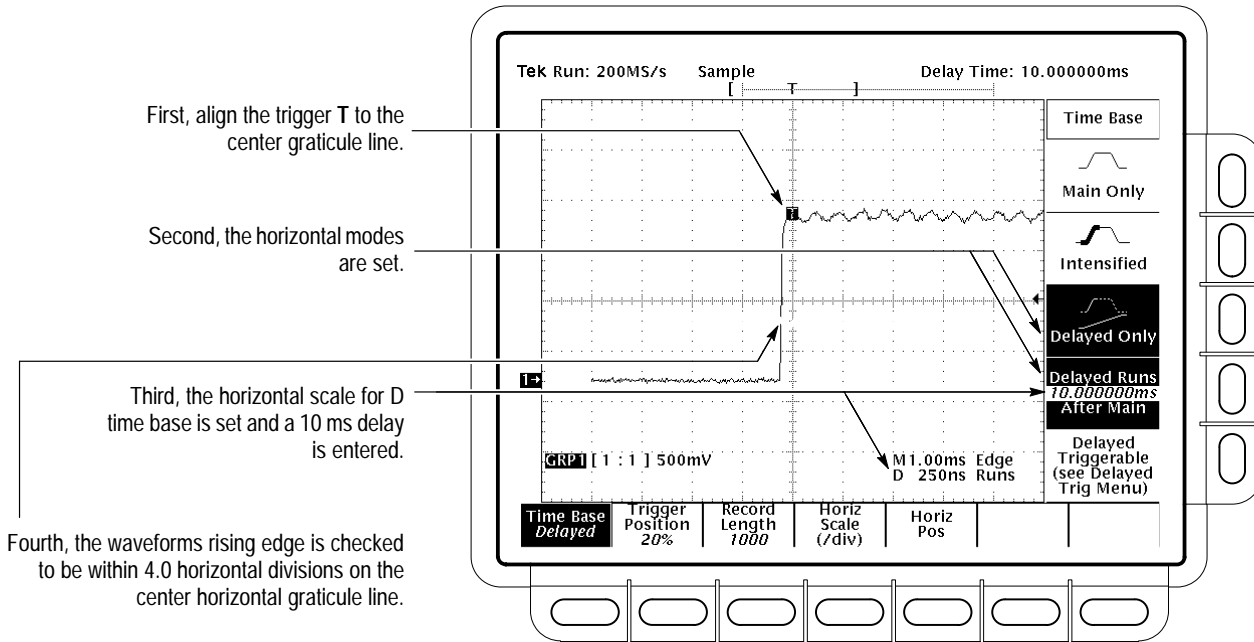

Figure 4–14: Measurement of Accuracy — Long-Term and Delay Time
- a. Connect, through a 50 Ω precision coaxial cable, a coaxial adapter, and an SMA to BNC adapter, the time-mark output of a time-mark generator to channel **1**. Set the output of the generator for 10 ms markers. See Figure 4–13.
- f. Check that the rising edge of the marker crosses the center horizontal graticule line at a point within ± 4.0 divisions of center graticule (see Figure 4–14).